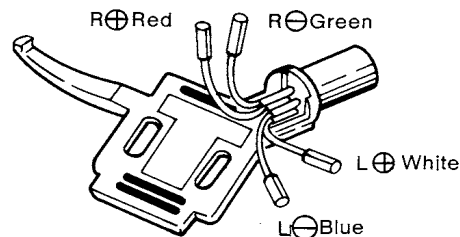

Fig. 3
- (1) Fix the tone arm firmly to the arm rest.
- (2) Remove the balance weight, platter mat and platter, and pack them separately.
**6. Connection of lead wires to the cartridge (Fig. 3)**